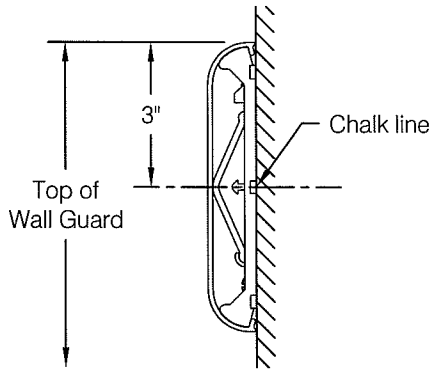

fig 1
Step 1: Determine top of wall guard height and snap a chalk line 3" below to locate centerline of wall guard and to provide a reference line for locating WG-6C Red-E-Clip® retainers, see **fig 1**.